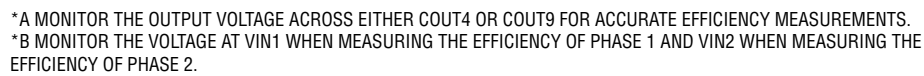

Figure 1. Proper Measurement Equipment Setup
Demonstration circuit 2002A is easy to set up to evaluate the performance of the LTC3774EUHE. Please refer to Figure 1 for proper measurement equipment setup and follow the procedure below.
1. With power off, connect the input supply, load and meters as shown in Figure 1. Preset the load to 0A and V_{IN} supply to be 0V. For both assemblies, place the jumpers in the following positions: